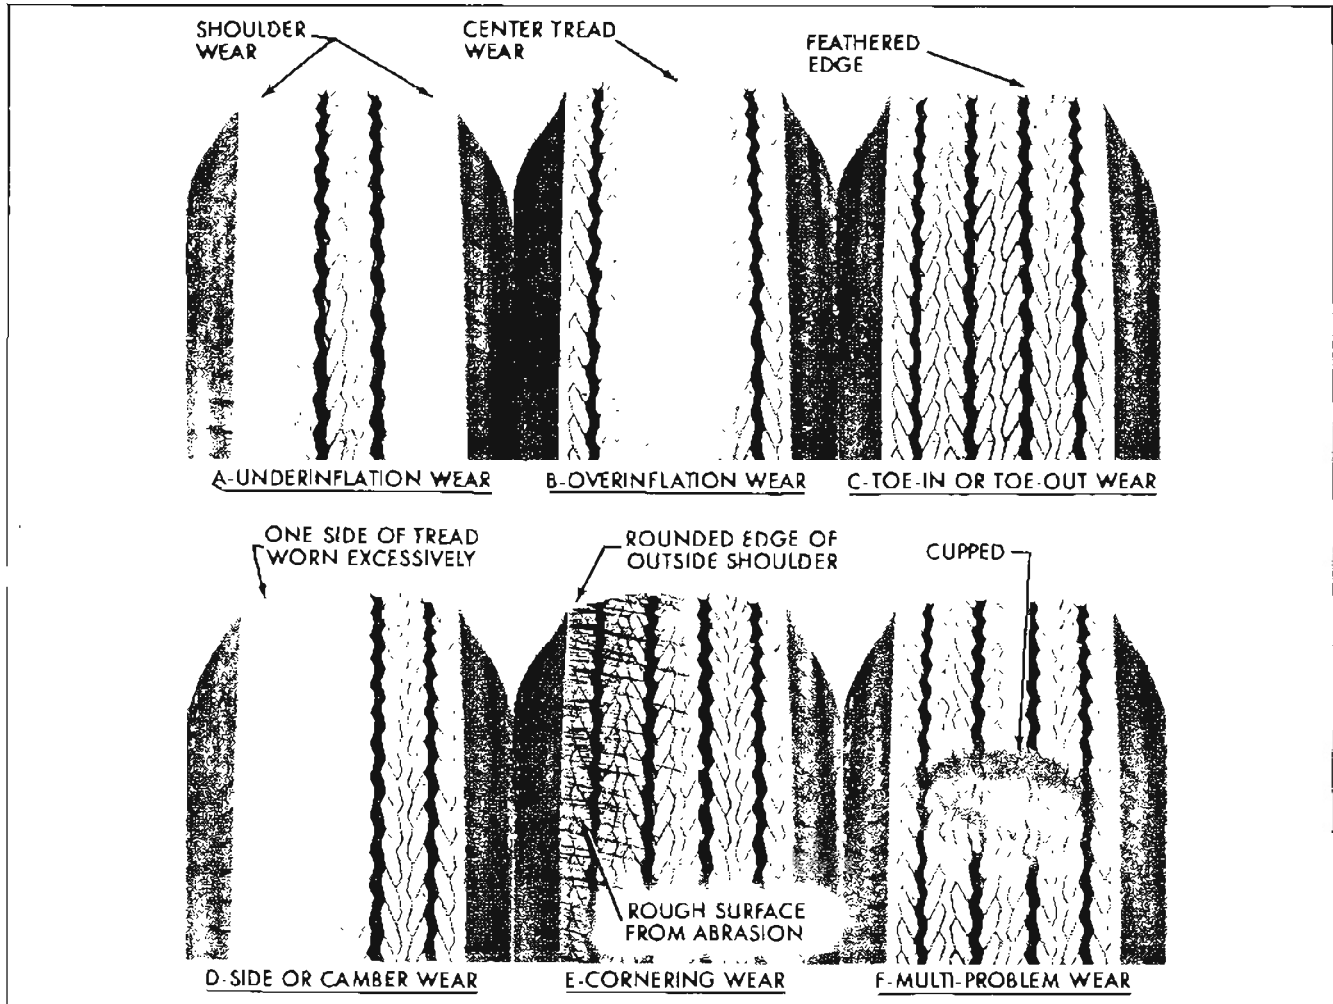

Figure 7-6—Abnormal Tire Tread Wear Patterns
2. Check runout of front and rear wheels and tires. Runout should not exceed specifications shown in Figure 7-6.
When a tire is underinflated, the side walls and shoulders of the tread carry the load while the center of tread folds in or compresses due to the low internal air pressure. This action causes the shoulders to take all of the driving and braking load, resulting in much faster wear of shoulders than of the center of tread. See Figure 7-6, view A. For maximum results in handling, riding and tire life, tire inflation pressures should never be allowed to go below the specified minimum pressure (par. 1-2).
center of the tread therefore wears away much faster than the shoulders and, if tire is continuously overinflated, may be worn thin while the shoulders have plenty of tread material left. See Figure 7-6, view B.
excessive amount of either toe-in or toe-out, the tires are actually dragged sideways when they travel straight down the road, and cross wear or scraping action takes place, rapidly wearing away the tread of tires. This cross wear condition will usually produce a tapered or feathered edge on the ribs of the tire tread. See Figure 7-6, view C. In most cases this can be detected by rubbing the hand across the tire tread.
Excessive wheel camber, either positive or negative, causes the tire to run at such an angle to the road surface that one side of the tread wears much more than the other. See Figure 7-6, view D.
Cornering wear can be distinguished from toe or camber wear by the rounding of the outside shoulder of the tire, and by the roughening of tread surface in this section denoting severe abrasion. See Figure 7-6, view E.
wear will occur on any type of block tread design. See Figure 7-6, view F.